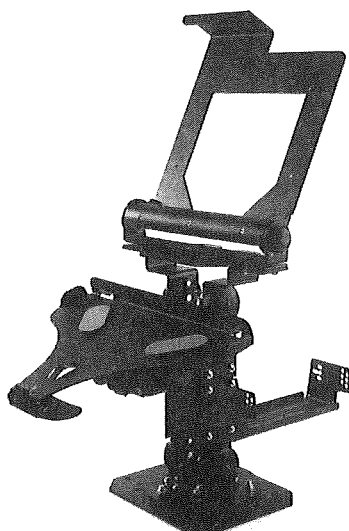
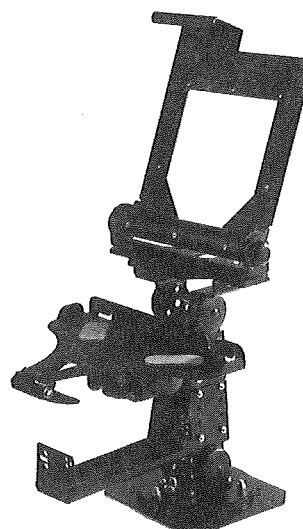

Figure 4
Figure 5
The CPU arm allows for mounting of the CPU box on the pedestal. As shown in Figure 4 and Figure 5, the CPU arm can protrude forward or backward from the pedestal. The CPU box can be mounted on the CPU arm using the supplied trunnion (Figure 6 and Figure 7), or in any other suitable location.
If the CPU box is mounted on the pedestal, it must be mounted to the CPU arm using the trunnion. The CPU arm can be affixed to the pedestal in two possible orientations (see Figure 4 and Figure 5):
1. Directly under the keyboard tray (see Figure 5).